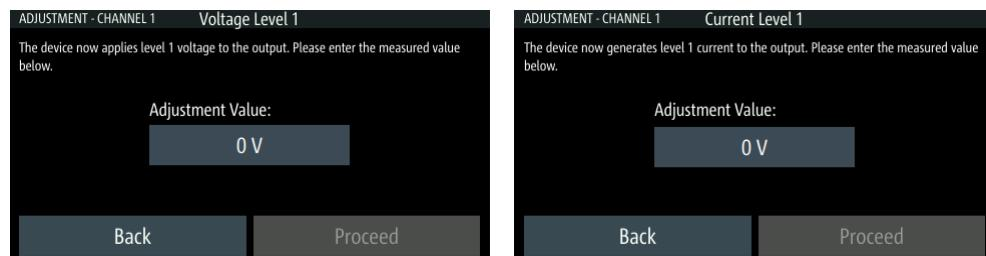

Figure 5-41: Channel adjustment procedure
6. Based on the selection, the R&S NGT3600 applies a voltage/current respectively for the voltage/current adjustment. Key in the measured value from DMM using the on-screen keyboard. See Figure 5-41.